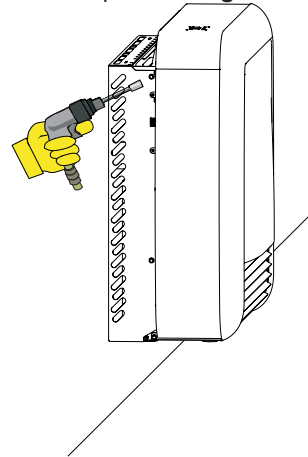

Figure 4
- Move the wall furnace into position on the wall mount shroud and secure in position using the four #10 x 1/2" hex-head screws removed in step 7. See Figure 4.